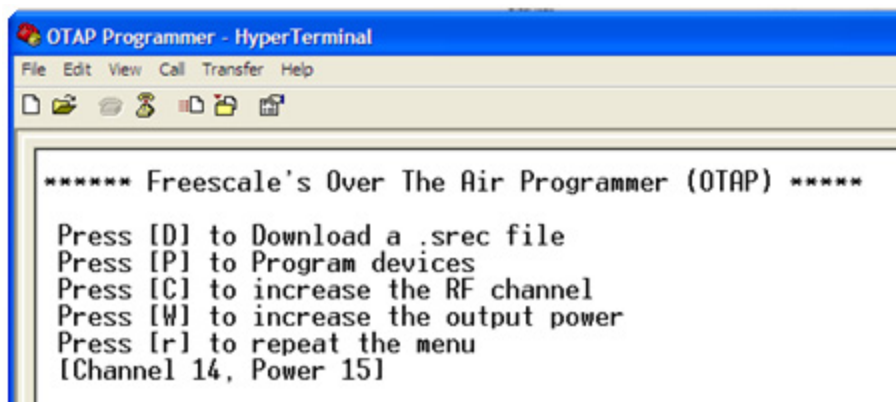

Figure 10-4. OTAP Start Message
3. Once the board is in COM mode, the serial terminal displays the information as shown in Figure 10-4.